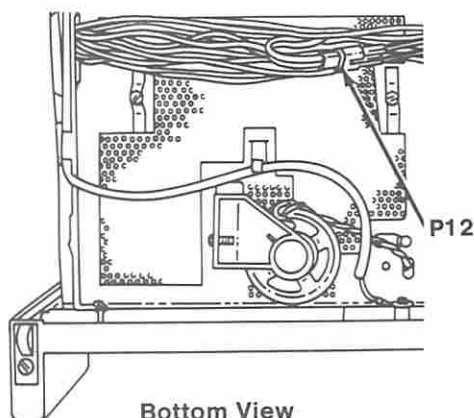

Figure 1. Portable Personal Computer Power Connector
- Refer to Figure 1 on page 0500-4 and measure the voltage at the display power connector P12. Do not unplug the connector.